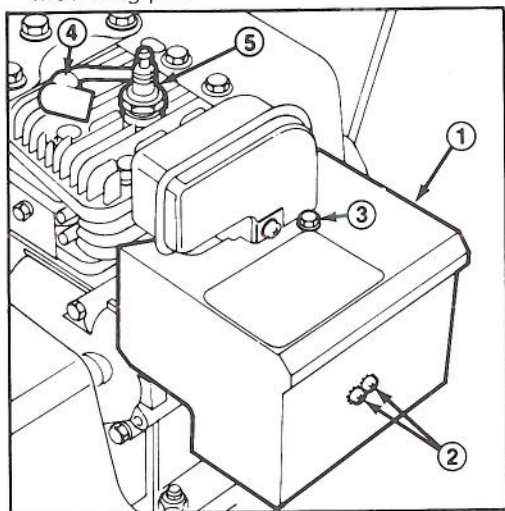

Figure 15
Note: (Model 521 only) If engine is operated when temperature is +40° F (4° C) or higher, remove carburetor heater box (Fig. 15). However, the heater box must be reinstalled when temperature falls below +40° F (4° C). To remove heater box:
- A. Remove phillips screws and hex head screw securing heater box in place. Pull choke knob off choke rod (Fig. 15).
1. Push high tension wire onto spark plug (Fig. 15).
To prevent accidental starting of the engine while performing maintenance, rotate ignition key to off and remove it from the switch. Next, pull high tension wire off spark plug (Fig. 15) and make sure wire does not accidentally touch the plug.